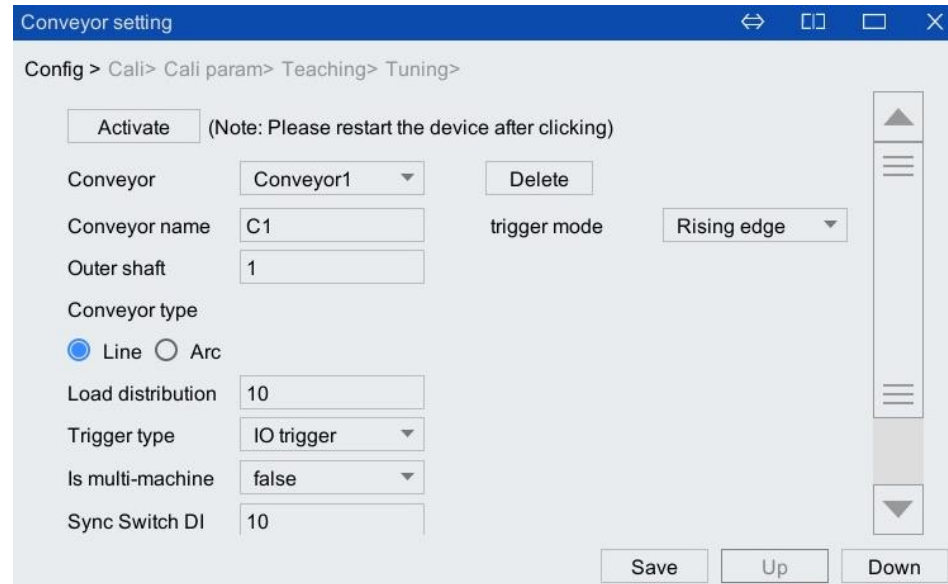

Figure 5-3 Activate the basic parameter configuration interface of the conveyor belt
Step1. Enter the [Conveyor setting] interface again. The basic parameters in the configuration interface are as shown in Figure 5-3, and the parameter description is as shown in Table 5-1. After the configuration is complete, click <Save> and restart the control cabinet for the configuration to take effect.